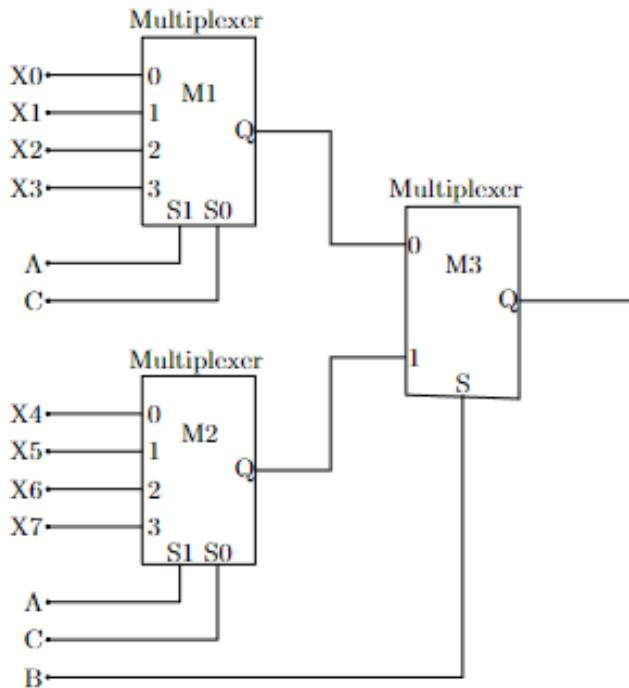

Fig. 4.27: Digital Circuit
52. A Boolean digital circuit is composed using two 4-input multiplexers $M1$ and $M2$ and one 2-input multiplexer $M3$ as shown in the Fig. 4.27. X_0-X_7 are the inputs of the multiplexers $M1$ and $M2$ and could be connected to either 0 or 1. The select lines of the multiplexers are connected to Boolean variables A , B and C as shown. Which one of the following set of values of $(X_0, X_1, X_2, X_3, X_4, X_5, X_6, X_7)$ will realise the Boolean function $\overline{A} + \overline{AC} + \overline{ABC}$?